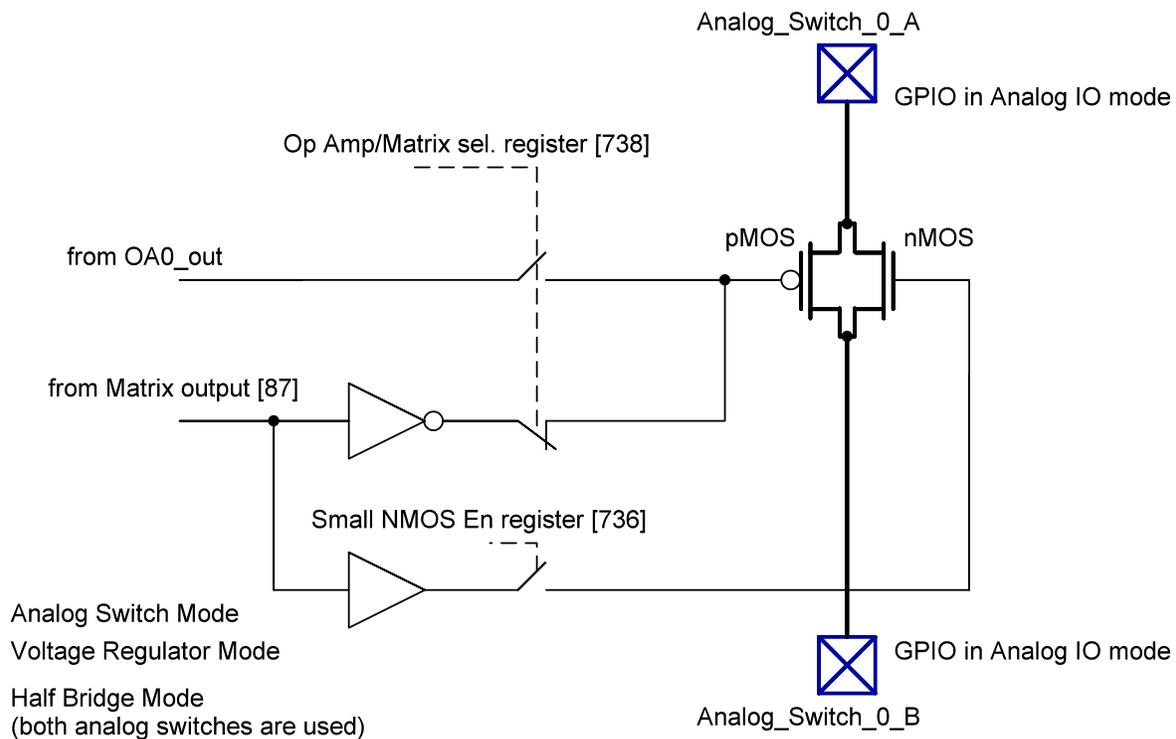
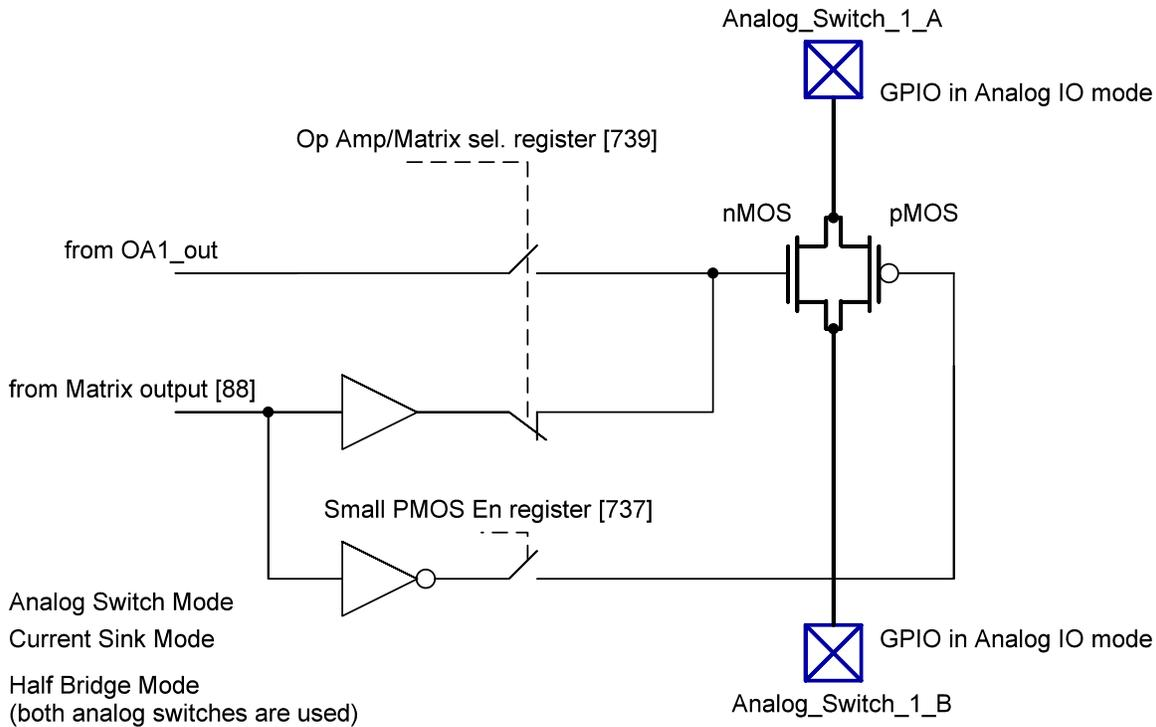

Figure 99: Analog Switch 0 Control Circuit
Figure 100: Analog Switch 1 Control Circuit
The SLG47004 contains two single-pole/single throw (SPST) normally open analog switches (AS). The structure of the Analog Switches is shown in Figure 99 and Figure 100.